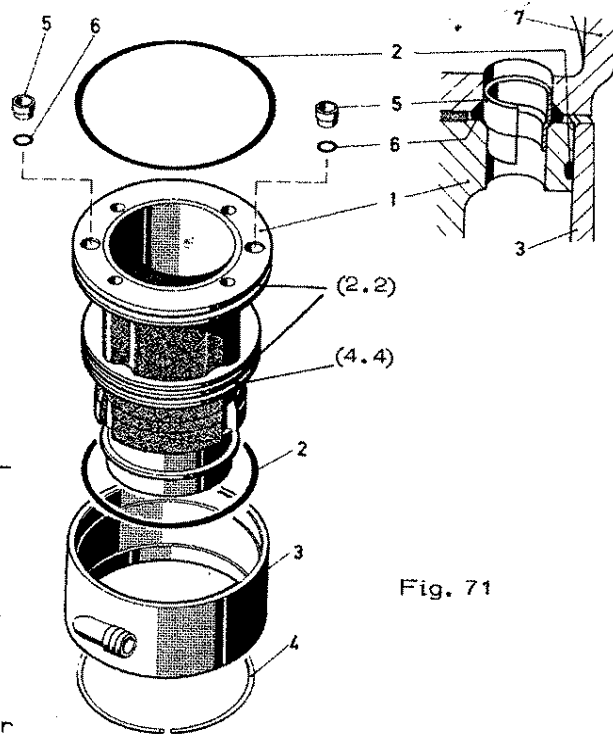

Fig. 71
Water coming up from circulating pump flows into cylinder water jacket (1), passes thru Transfer-tubes (5), Figure 71.
WATER TRANSFER TUBES (5) - Fig. 71